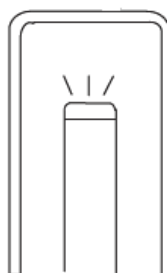

Figure 5.2
3. Insert the distal end of the endoscope into the white cap as shown in Figure 5.2. Hold the white cap and endoscope steady to avoid washing out of the monitor image.